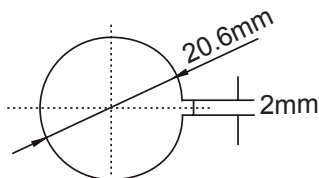

Fig. 2
Note: Panel thickness should be 0.10 inches / 3mm or less (See figure 2)
STEP 3: Wire Ground (Pin 3/Black) directly to the negative terminal of the battery, or to any grounded location on the vehicle. (See figure 2)